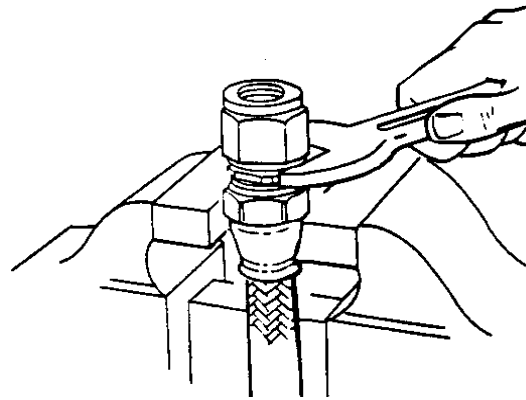

Figure 8: Removing nipple from socket
- Step 2.** Place socket in vise and remove nipple assembly by applying wrench to nipple hex. (See **Figure 8**.)